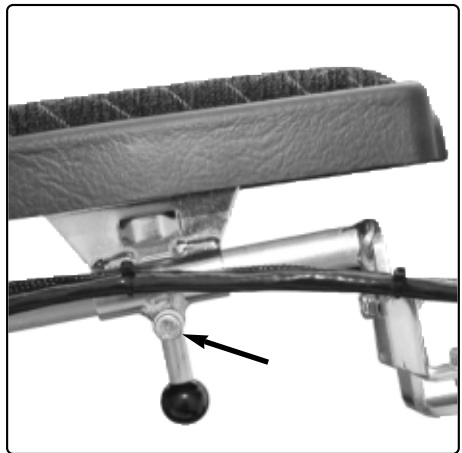

Figure 5. Adjusting the longitudinal position of the control panel
1. Loosen the screw; see figure 5.